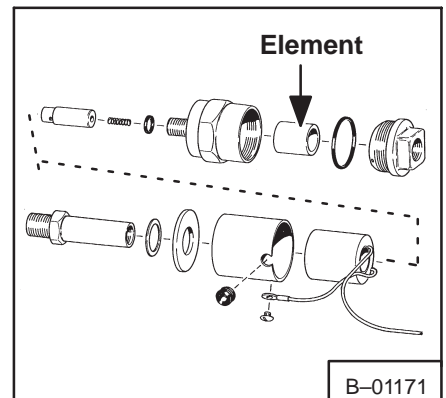

Fig. 1-18 LP Gas Fuel Filter
L.P. Gas: A filter with an ignition switch actuated shut-off lock is located between the inlet hose and vaporizer. This must be serviced regularly. Remove the old element and install new element when servicing (Fig. 1-18).